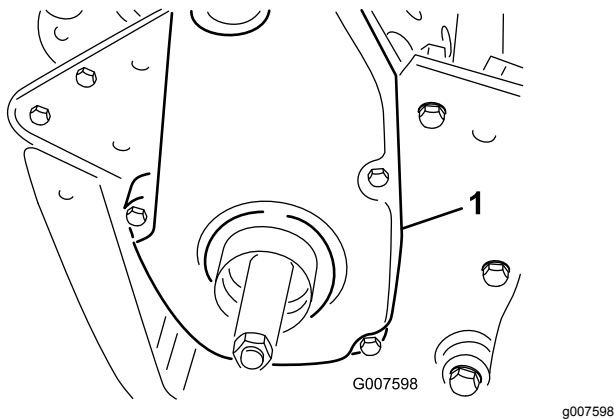

Figure 43
1. Remove the belt-cover mounting fasteners and the belt cover to expose the belt (Figure 43).